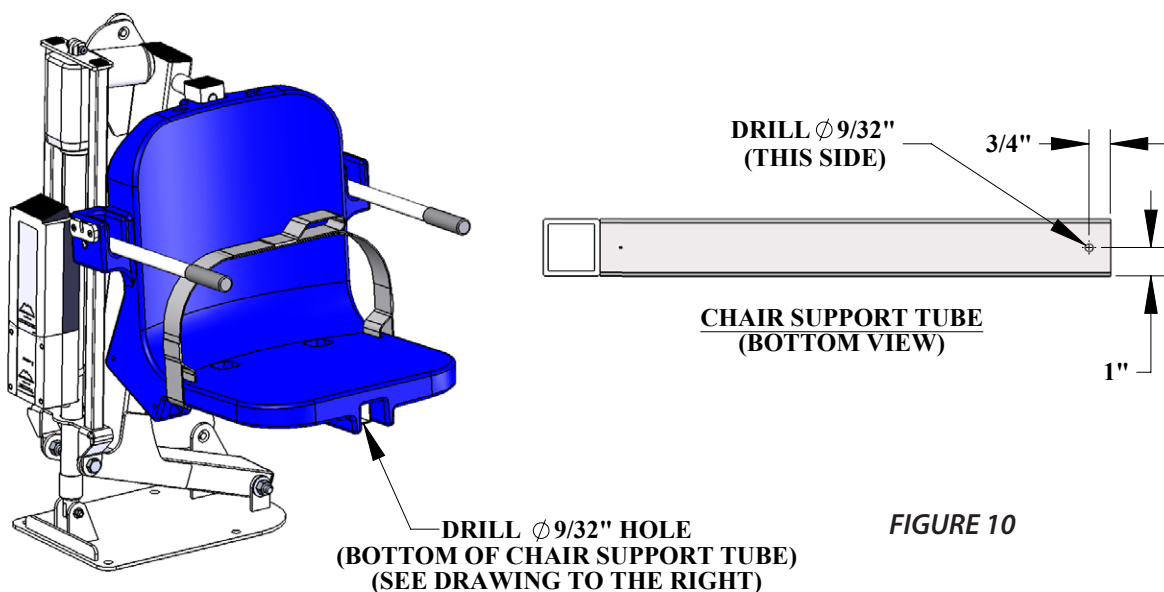

FIGURE 10
2. Drill a 9/32" hole at the location indicated in *FIGURE 10* through the bottom of the chair support tube. Drill only through the bottom of the tube. Remove the burrs from the hole before installing the legrest assembly.